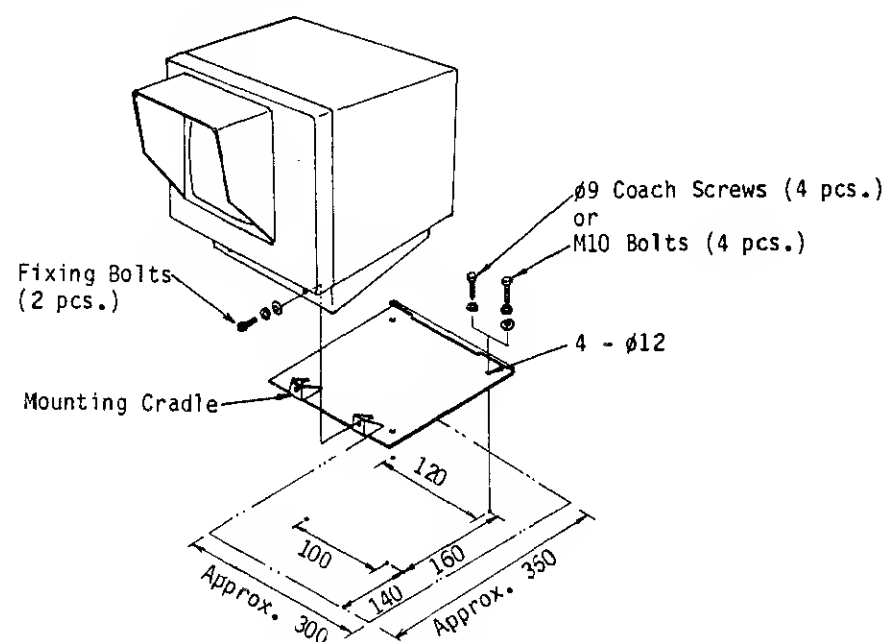

Fig.1-10 Display Unit Mounting
- 1) Remove the mounting cradle from the display main body by undoing two bolts at the front bottom of the display unit. See Fig.1-10.